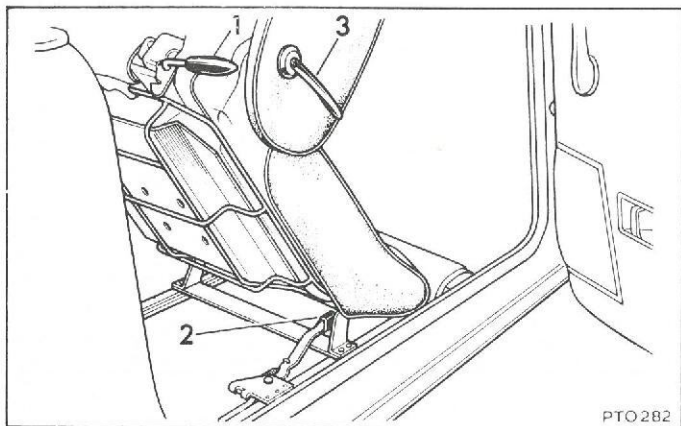

Fig. 1
Access to the space behind the seats is gained by lifting the lever (1) (Fig. 1), and tilting either seat forward. A self-locking catch will operate when the seat is returned to its normal upright position.
#### Seat Adjustment (Fig. 1)